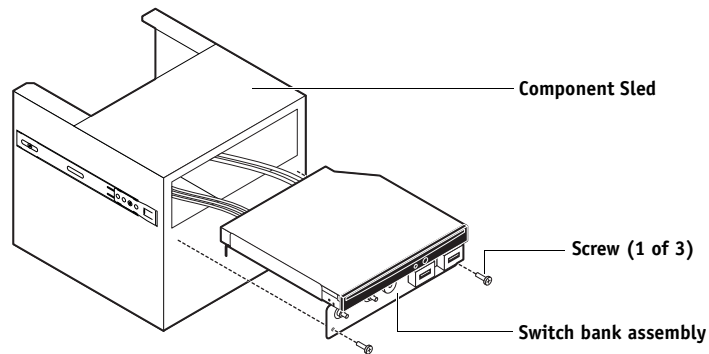

FIGURE 35: Removing/replacing the switch bank assembly
2. **Install the switch bank assembly in the Component Sled (see Figure 35).**